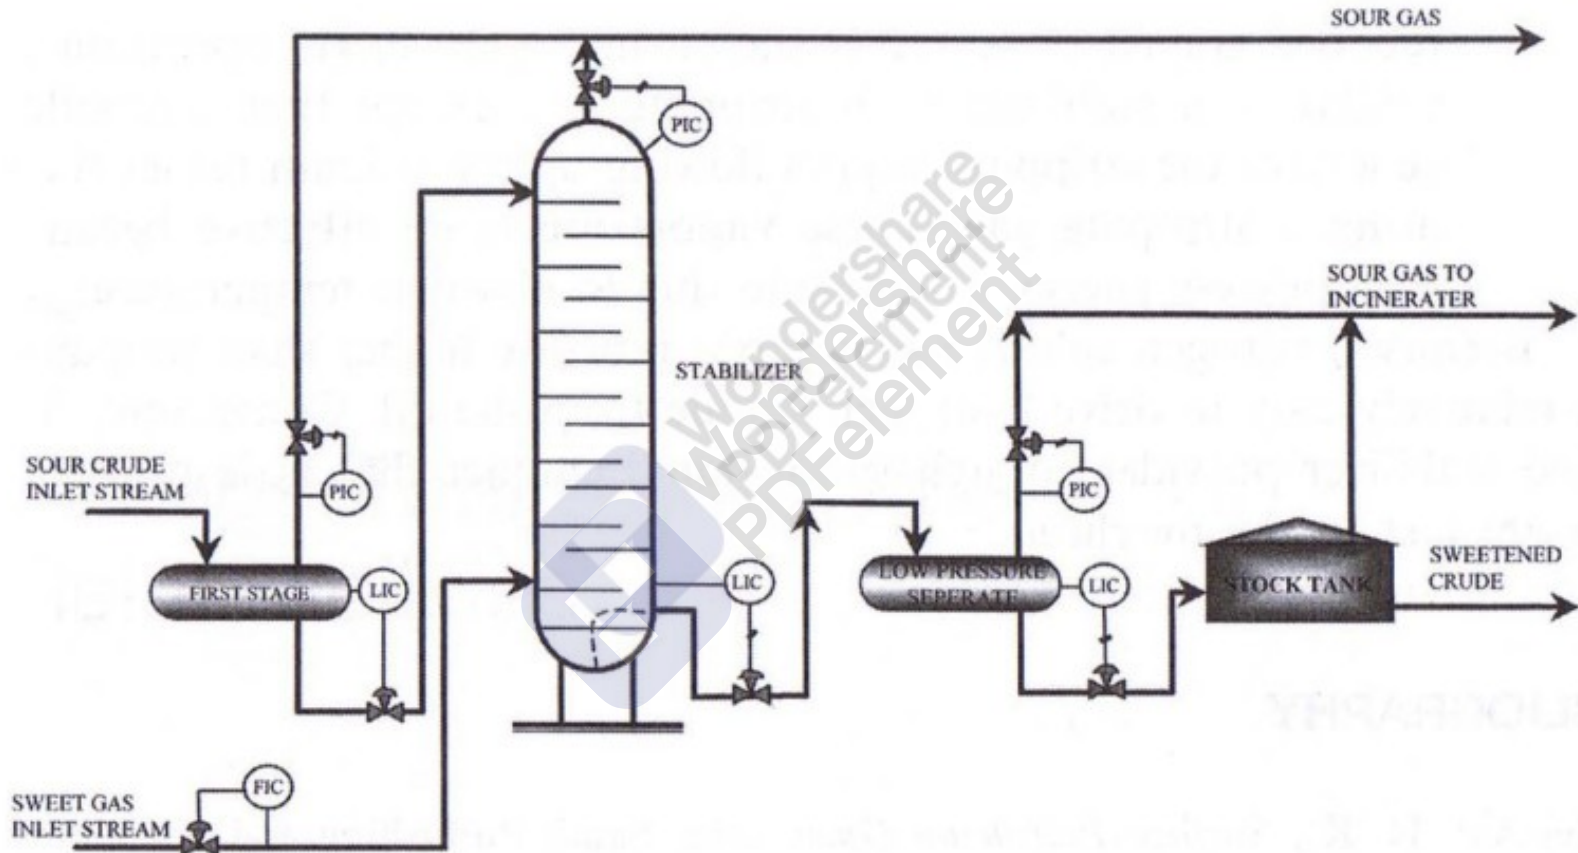

Figure 6 Crude sweetening by trayed stabilization with stripping gas.
- In this process, a tray stabilizer (nonreflux) with sweet gas as a stripping gas as a stripping agent is used as shown in Figure 6.